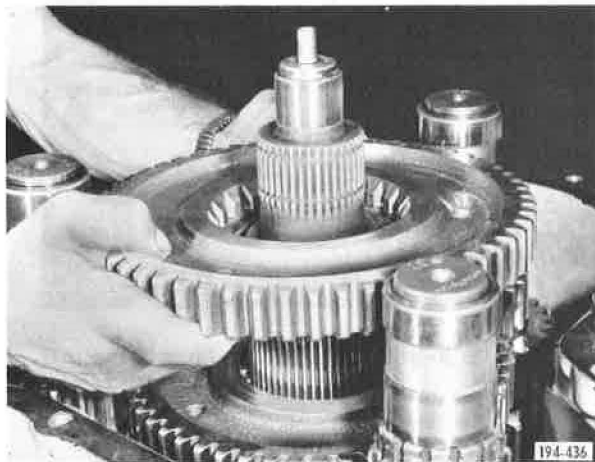

Figure 5-962. Installing Gear
23. Secure first speed gear thrust washer to front face of first speed gear with a light coat of grease, and then install first speed gear (beveled side of clutch teeth toward rear of transmission) with its thrust washer and engage with countershaft first speed gear. See **Figure 5-962**.